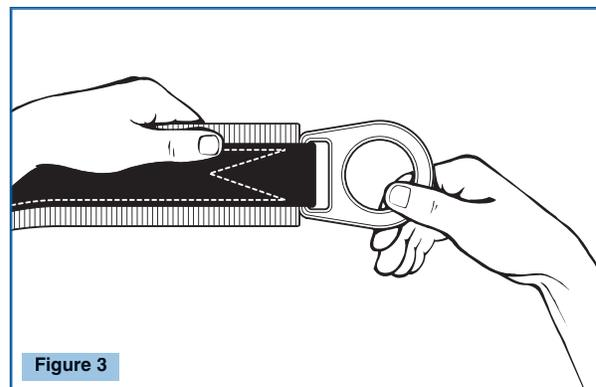

Figure 3
- 3. Inspect D-rings.** Check all D-rings for distortion. Check D-ring attachment points for unusual wear or damaged fibers. Badly pitted D-rings indicate chemical corrosion, and they should fail inspection. (See Fig. 3)